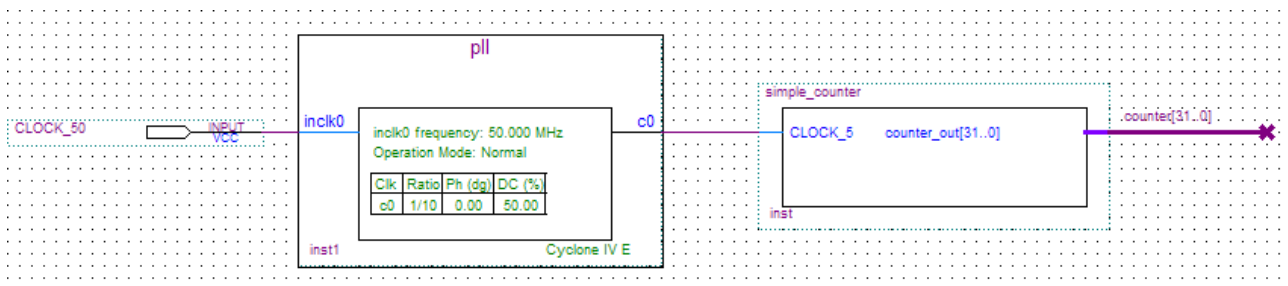

Figure 6-32 Circuit schematic (BDF)
4. Click OK. Figure 6-32 shows the BDF.